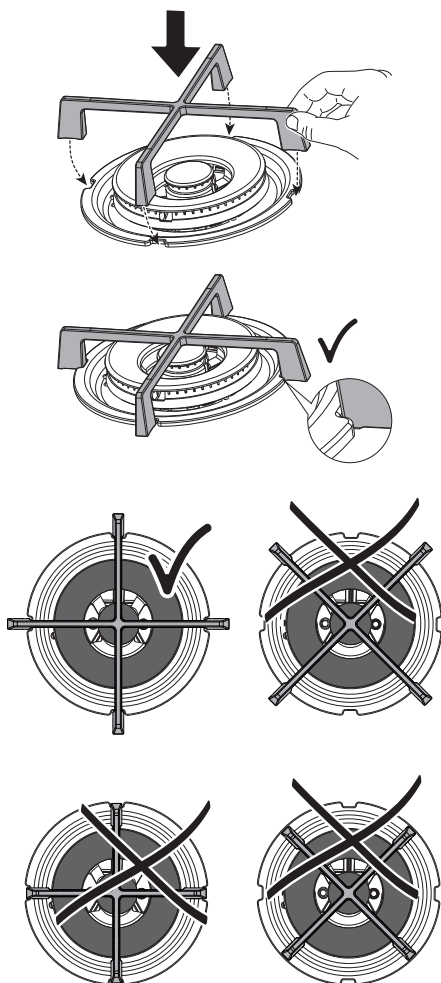

Figure 23
- After cleaning, they must be well dried and correctly replaced (fig. 23).